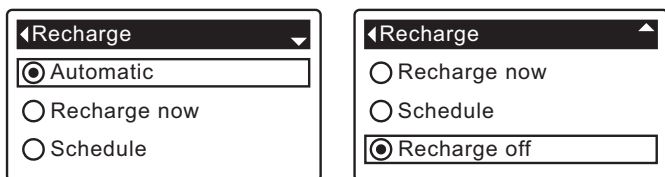
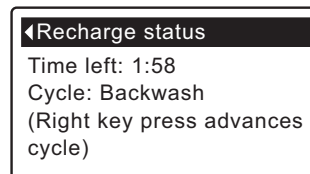

FIG. 33
FIG. 34
3. Press the SELECT (O) button to display the Recharge menu (See Figure 33).
4. If the desired option already has a black dot next to it (See Figure 33), go to Step 5. Otherwise, press the DOWN (▼) or UP (▲) buttons to scroll to the desired option, then press SELECT (O) to choose it.
- **Recharge now** begins a recharge immediately after the SELECT (O) button is pushed again in Step 5.
5. Press the SELECT (O) button. If **Recharge now** is selected, the display immediately goes to the Recharge status screen (See Figure 34).